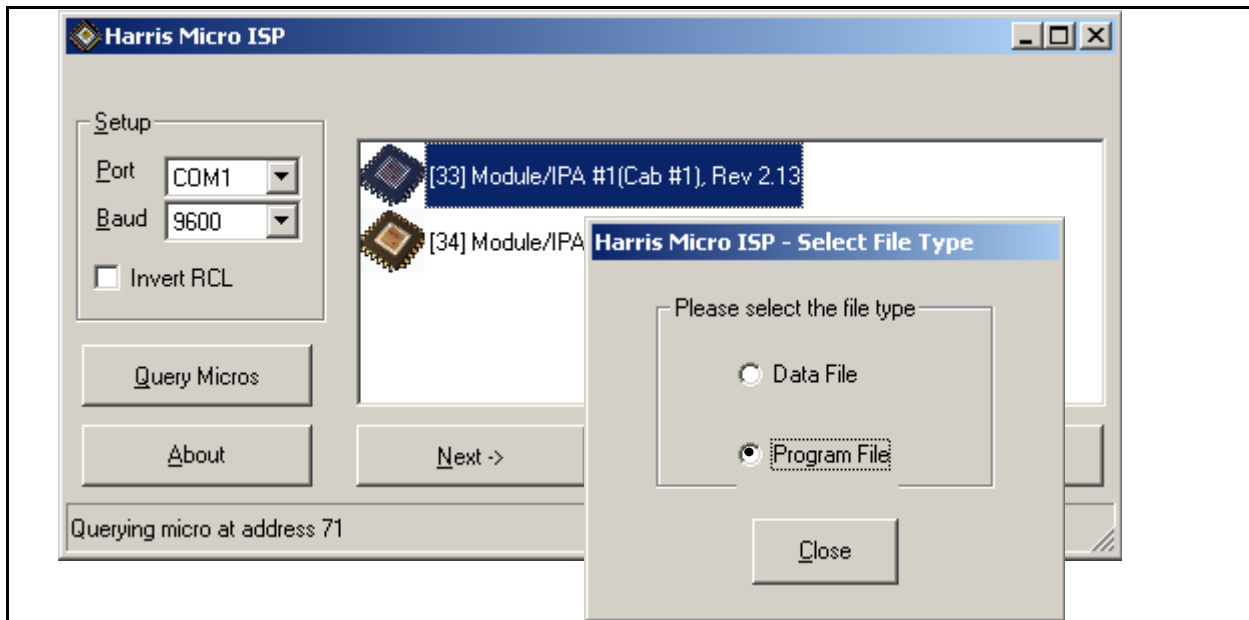
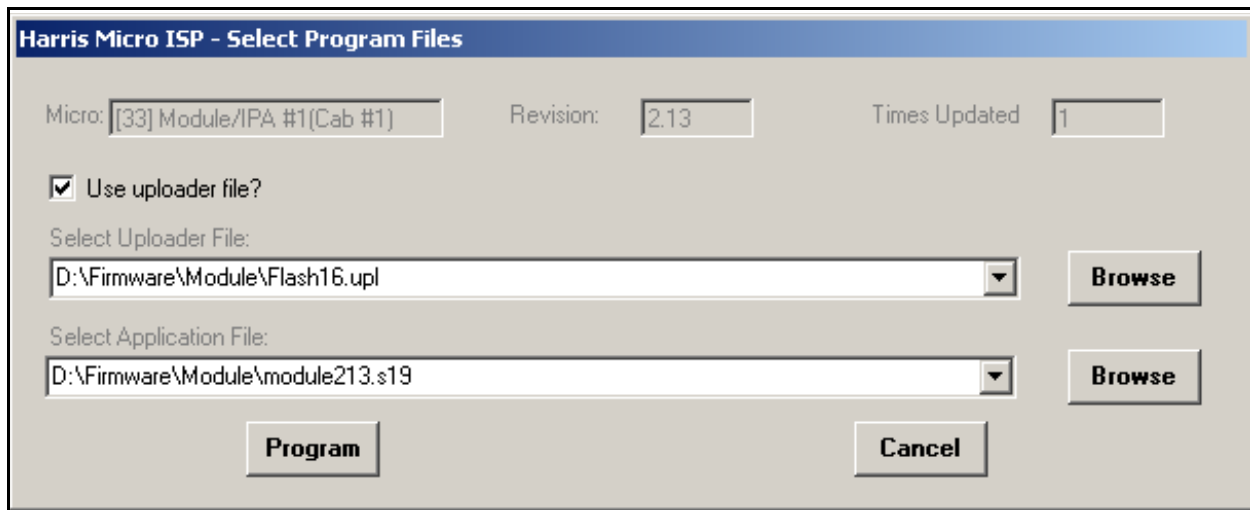

Figure 6-11 Controller Selected for Update, Program File Selected
Figure 6-12 Select Uploader and Application File
STEP 7 Once it has found the micros, select the one you want to update by double-clicking the icon to the left of the name. This will open the smaller pop-up window shown in Figure 6-11. Select the Program File button as shown. This will open the “Select Program Files” window shown in Figure 6-12.
- STEP 8** Make sure the “Use uploader file?” box **is checked** as shown in Figure 6-12 and browse to find the uploader file “Flash16.upl” on the CD-ROM. It is located in the directory D:\Firmware\Module\